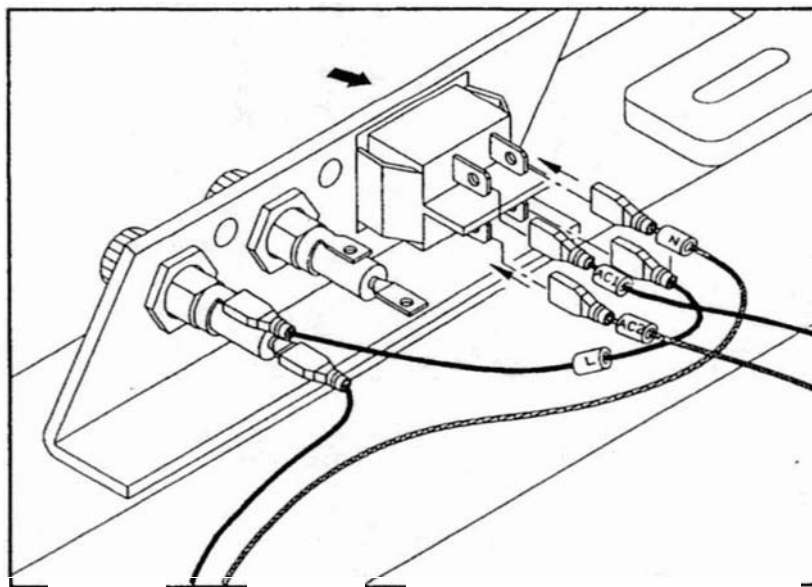

Fig.2
4. Connect the two wires (L) to the bottom two switch sockets. Then connect the two wires (N) to the top two sockets (see Fig.2). Make sure the wires are properly connected.